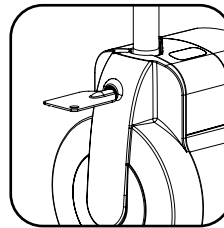

Figure 7
- 3.1 Insert the Pürleve key into cover lock, turn (either direction) and open cover (Fig. 7)